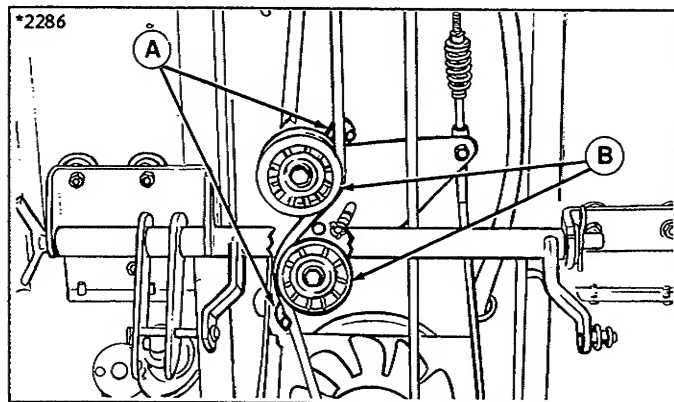

Figure 25.
3. Remove belt from between belt stops (A, figure 25) and idler pulleys (B).